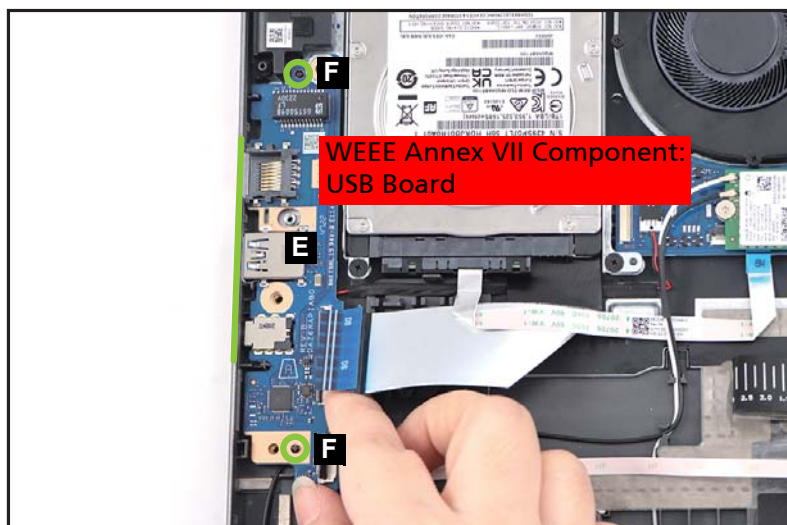

Figure 1-26. USB Board Removal
5. Release the USB board (E) from the I/O port slots and guide pins (F) on the top assembly (Figure 1-26). Then remove the USB board.